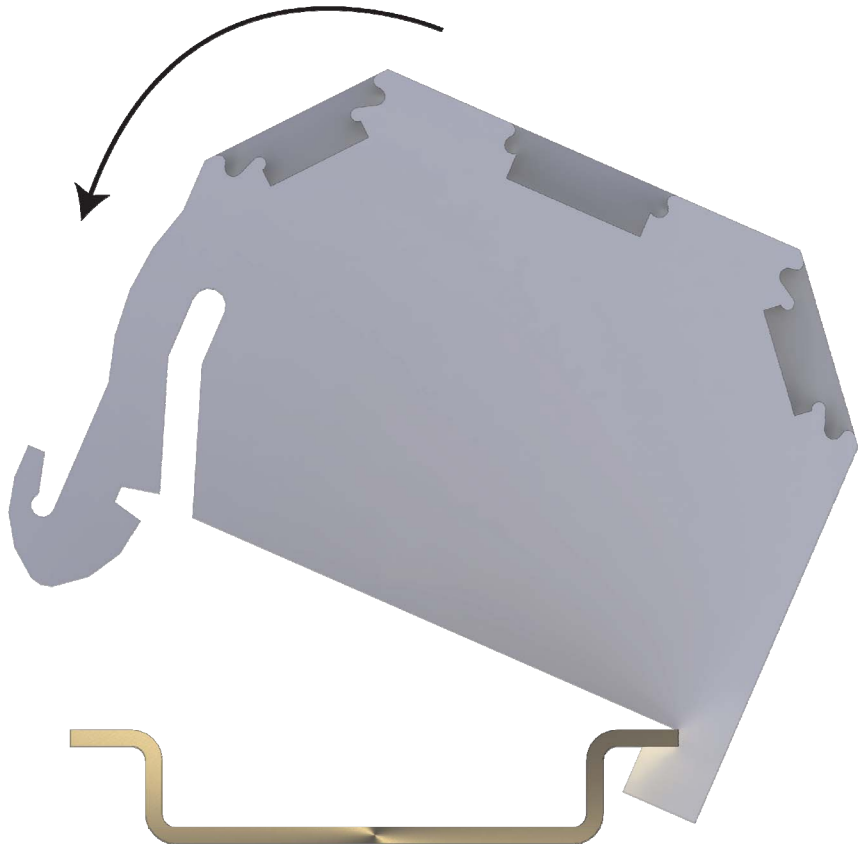

FIGURE 1. 15908 DIN Rail Stopper Installation
1. Mount the 15908 DIN Rail Stoppers, 15920 Terminal Strips, and 15907 End Plates onto the 15906 DIN Rail Bracket (see Figures 1 through 3).